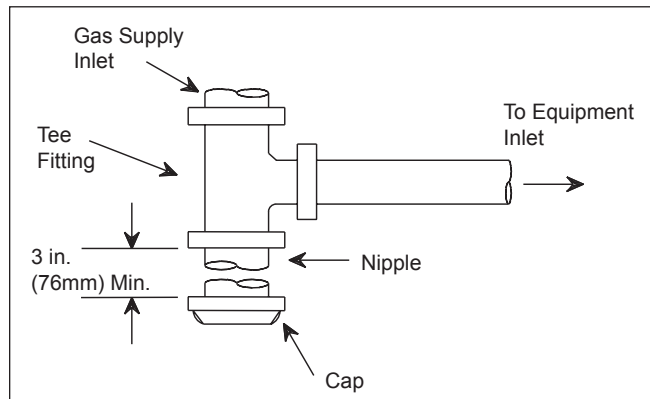

**Figure 8. Gas Supply Piping.**
4. A sediment trap (drip leg) must be installed ahead of the gas controls (see Figure 8). Fit the trap with a threaded cap which can be removed for cleaning.